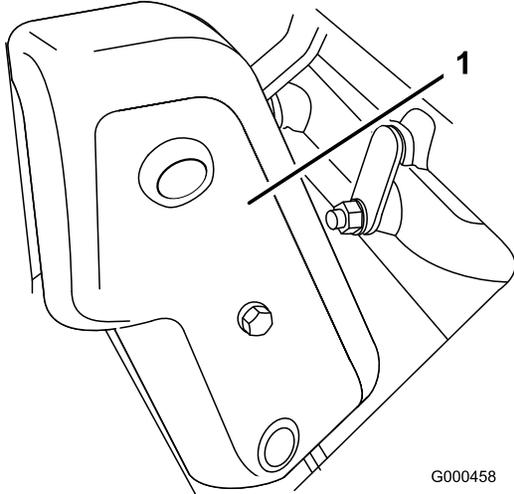

Figure 41
1. Remove the belt cover mounting fasteners and belt cover to expose belt (Figure 41).